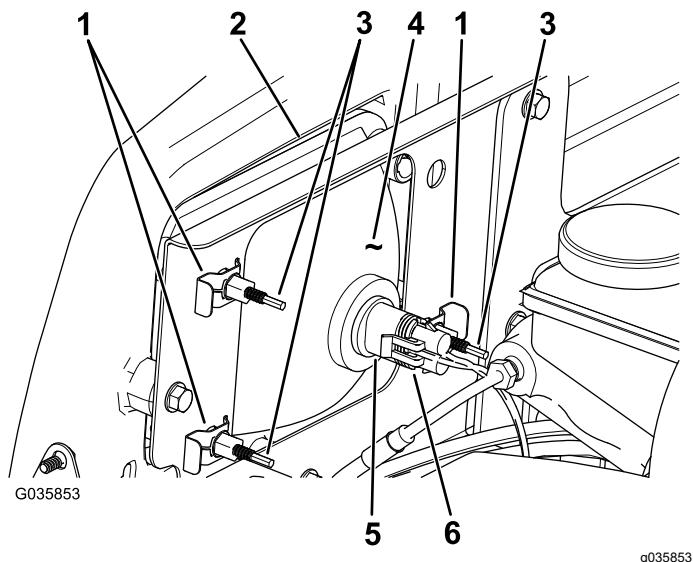

Figure 43
- Disconnect the electrical connector for the harness from the connector of the lamp assembly (Figure 43).
- Remove the speed clips that secure the headlight to the headlight bracket (Figure 43).
- Remove the headlight assembly by moving it forward through the opening in the front bumper (Figure 43).
- Install the new headlight through the opening in the bumper (Figure 43).
- Connect the electrical connector for the harness to the connector of the lamp assembly (Figure 43).
- At the back of the headlight assembly, rotate adjustment screws (Figure 43) to pivot the headlight assembly and align the position of the cast beam.